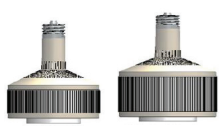

Figure 2: [Step 5] Bring Line Voltage to the Socket; Connect Hot to Black wire and Neutral to white wires connected to E39/E26 Socket.
- Step 5: Connect Hot (120VAC-277VAC) to black wire; and Neutral to white wire connected to E39 or E26 socket [See Figure 2].